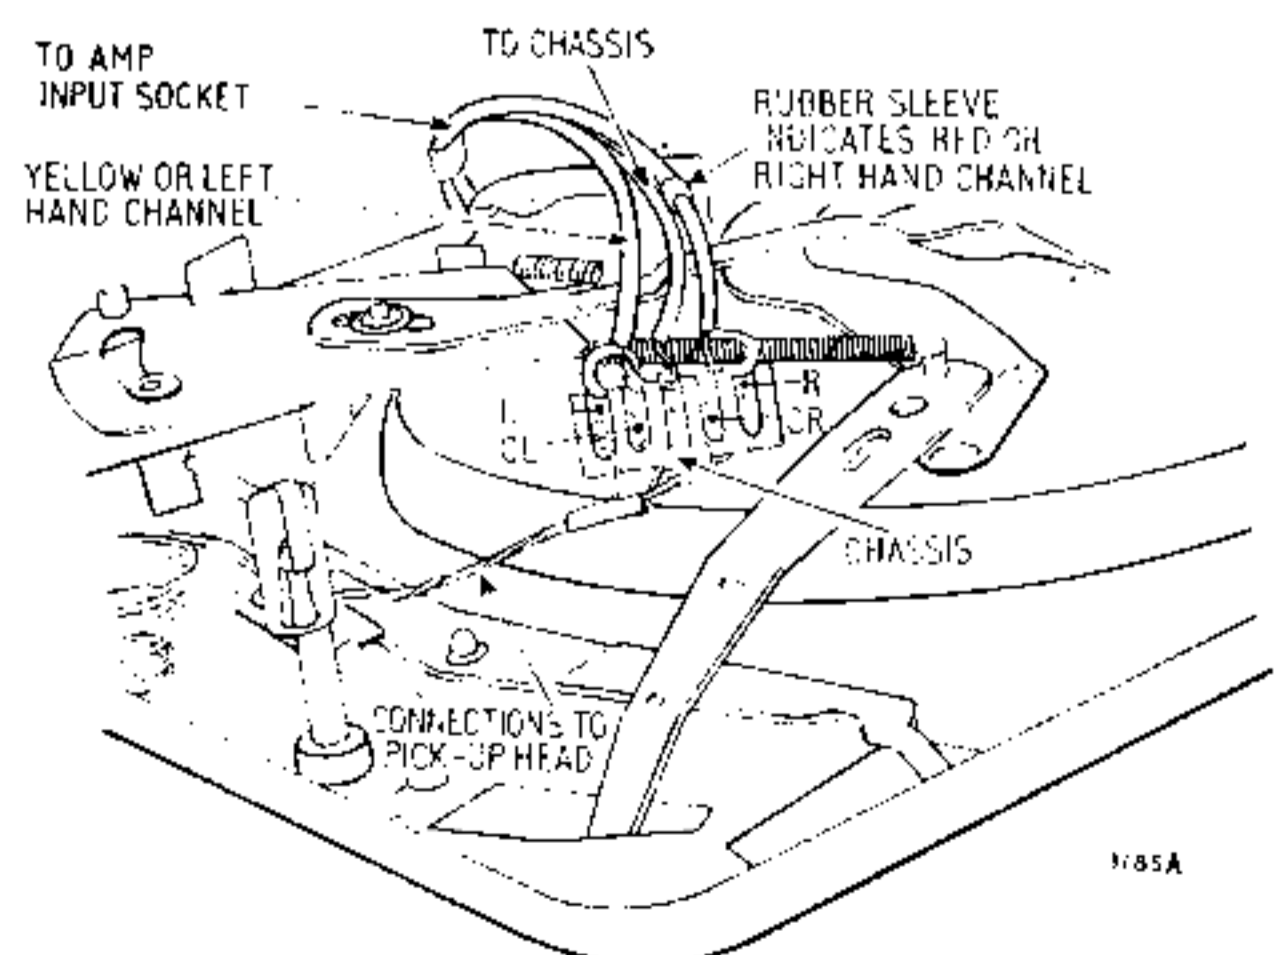

Fig. 1 Pick-up connections.
- 3 Unsolder the pick-up leads from the tag strip (see Fig. 1).